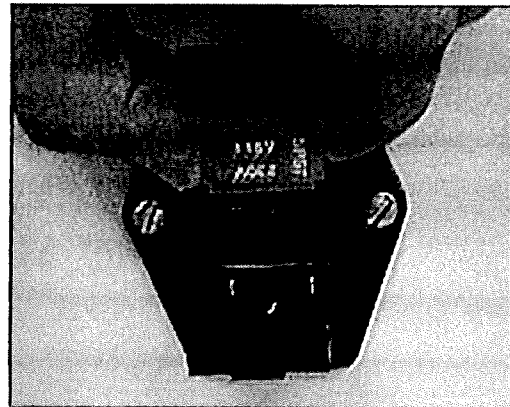

Figure 5.3
- Gently pull out the fuse holder (**Figure 5.3**).